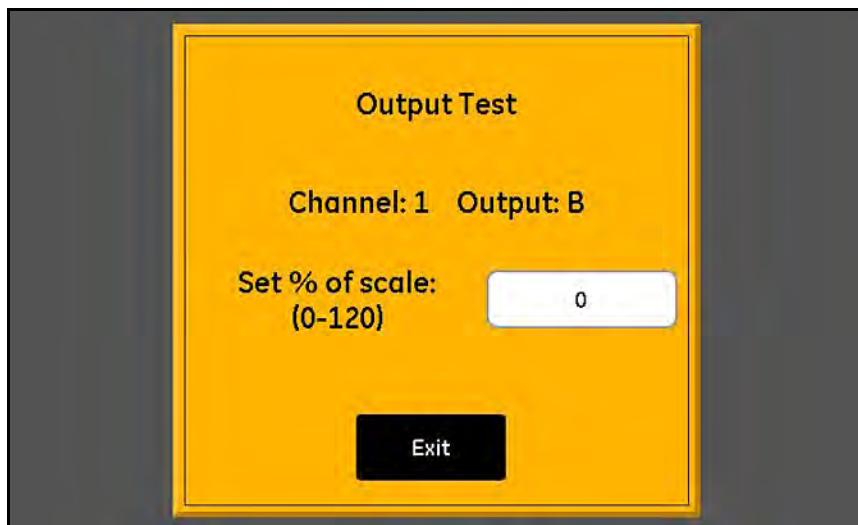

Figure 44: Output Test Screen
1. Tap the **Channel (1-6)** and **Output (A or B)** to be tested, and then tap the **Test** button to open a screen similar to *Figure 44* below.